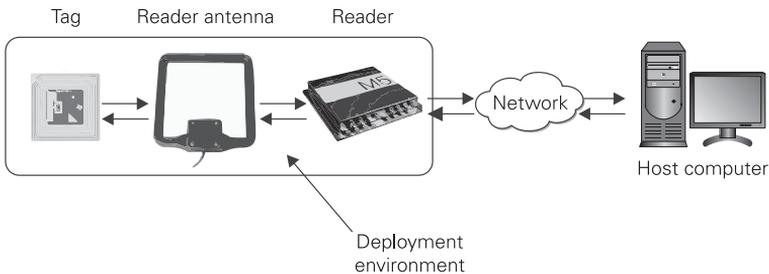

FIGURE 1.2 The physical layer of the RFID system
Figure 1-2 shows the physical layer of an RFID system: a tag, an antenna, a reader, and the deployment environment. The deployment environment consists of an interrogation zone (IZ)—the space in which a reader antenna emits radio waves through which the tags pass—and objects in the vicinity of the IZ. The deployment environment is included in the physical layer because the performance of the RFID reader and tag is greatly affected by various characteristics of the deployment environment. The radio frequency interference within the deployment space and type, size, and shape of objects located within the deployment space affect the read performance of tags.